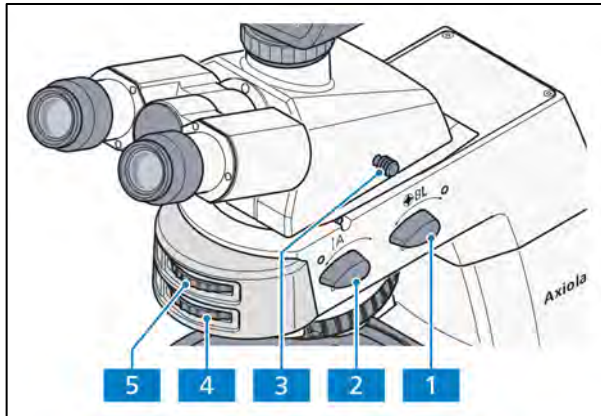

Fig. 4-17 Axiolab 5 for transmitted light conoscopy
- Swivel the analyzer into the beam path (**On** position) with rotary knob **A** (Fig. 4-17/2). The polarization direction can be changed using the setting wheel (Fig. 4-17/4) of the analyzer.
- Switch on the Bertrand lens **BL** (Fig. 4-17/1) (Position **On**). The axial figure will appear in the field of view.
- Bring the axial figure into focus with the setting wheel (Fig. 4-17/5).
(3) Evaluation